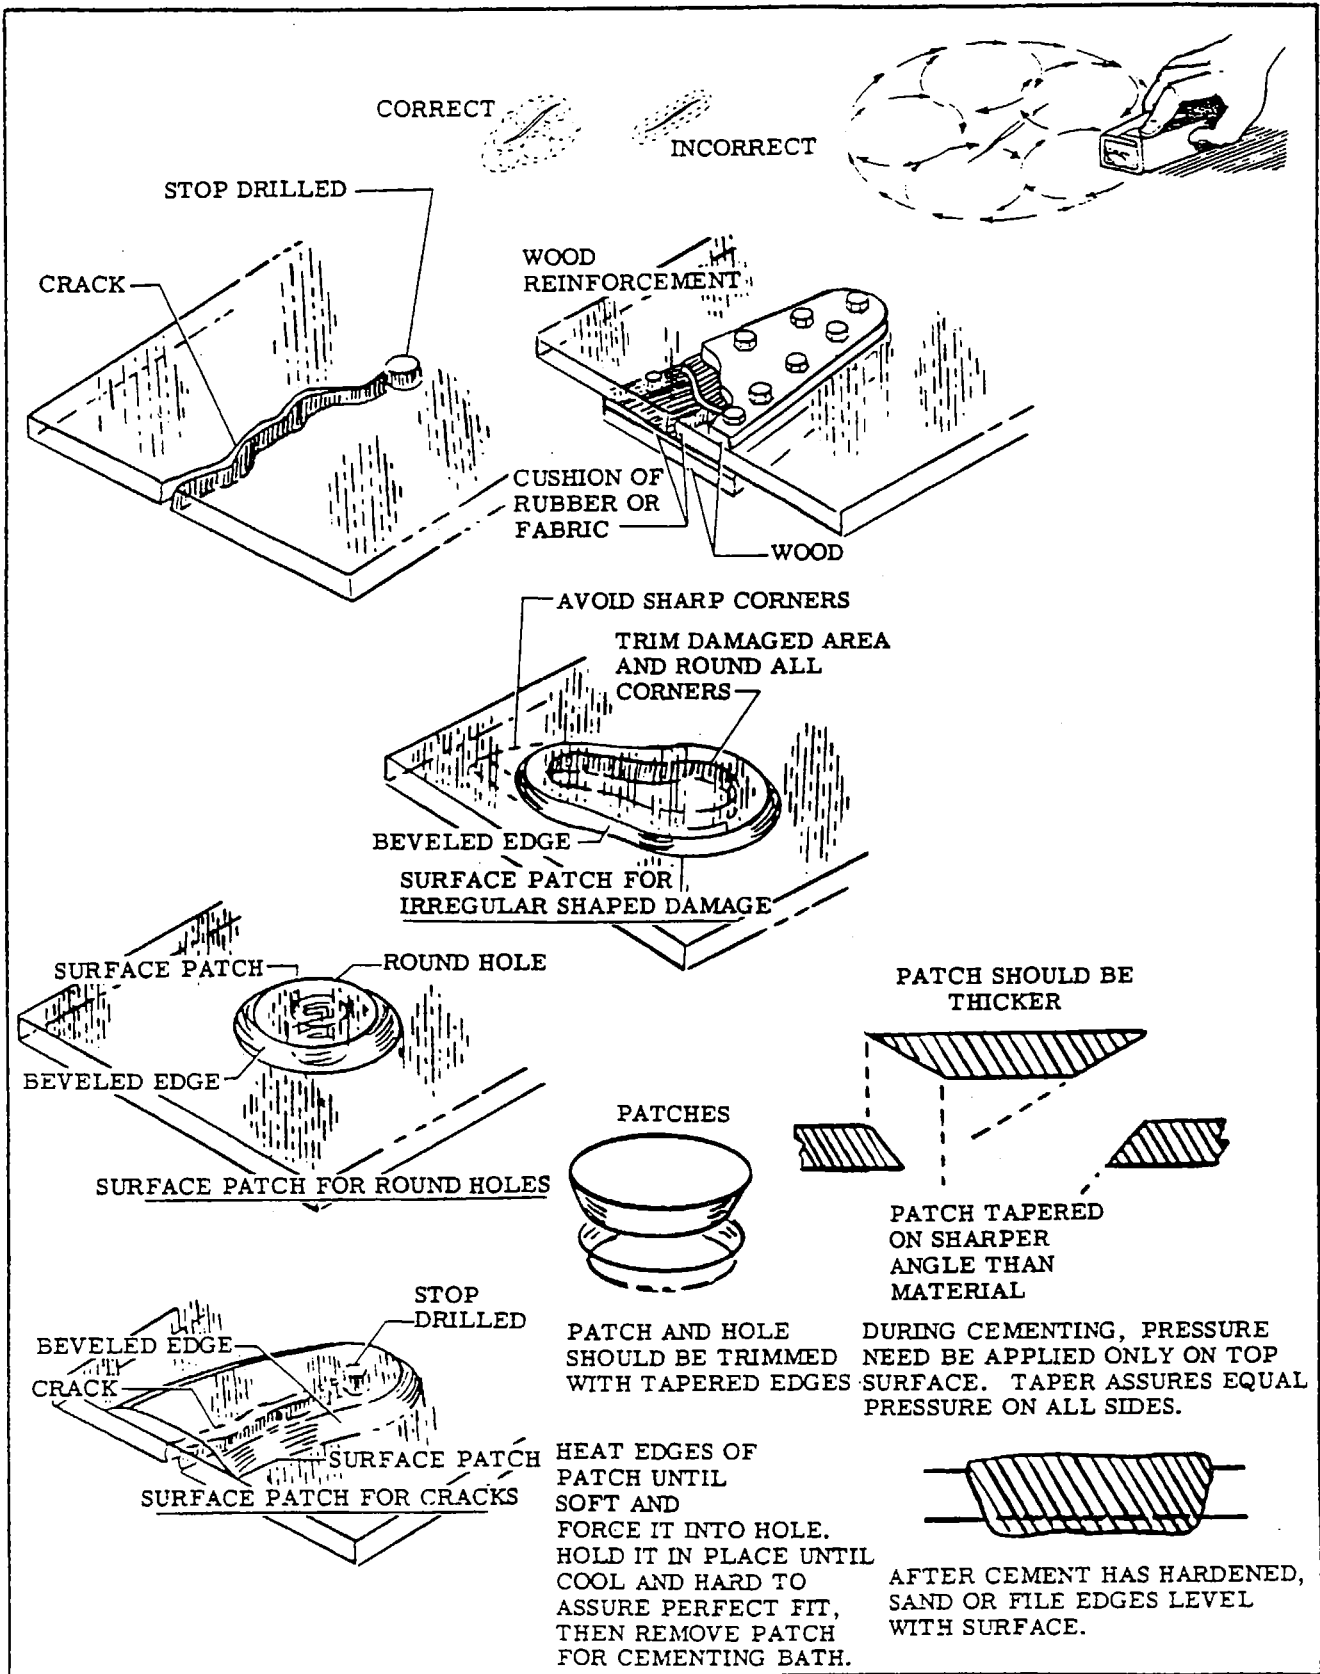

Figure 3-1. Repair of Windshields and Windows
3-6. REPAIR. Replace extensively damaged transparent plastic rather than repair whenever possible, since even a carefully patched part is not the equal of a new section, either optically or structurally. At the first sign of crack development, drill a small hole at the extreme end of the crack as shown in figure 3-1. This serves to localize the cracks and to prevent further splitting by distributing the strain over a large area. If the cracks are small, stopping them with drilled holes will usually suffice until replacement or more permanent repair can be made. The following repairs are permissible; however, they are not to be located in the pilot's line of vision during landing or normal flight.
a. **SURFACE PATCH.** If a surface patch is to be installed, trim away the damaged area and round all corners. Cut a piece of plastic of sufficient size to cover the damaged area and extend at least 3/4-inch on each side of the crack or hole. Bevel the edges as shown in figure 3-1. If the section to be repaired is curved, shape the patch to the same contour by heating it in an oil bath at a temperature of 248° to 302°F., or it may be heated on a hot plate until soft. Boiling water should not be used for heating. Coat the patch evenly with plastic solvent adhesive and place immediately over the hole. Maintain a uniform pressure of from 5 to 10 psi on the patch for a minimum of three hours. Allow the patch to dry 24 to 36 hours before sanding or polishing is attempted.
b. **PLUG PATCH.** In using inserted patches to repair holes in plastic structures, trim the holes to a perfect circle or oval and bevel the edges slightly. Make the patch slightly thicker than the material being repaired, and similarly bevel the edges. Install patches in accordance with procedure illustrated in figure 3-1. Heat the plug until soft and press into the hole without cement and allow to cool to make a perfect fit. Remove the plug, coat the edges with adhesive, and then reinsert in the hole. Maintain a firm light pressure until the cement has set, then sand or file the edges level with the surface; buff and polish.
3-8. CRACKS. (See figure 3-1.)